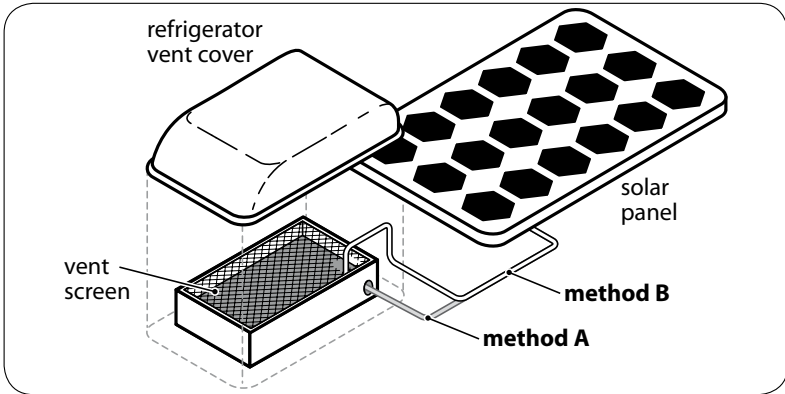

Fig. 8.6 PV Wire Entry Through RV Vent
- The wire pair from the solar panel can be routed to the interior of the RV through the roof-top refrigerator vent. Find where the refrigerator vent is located on the roof of the RV. See Fig. 8.6.